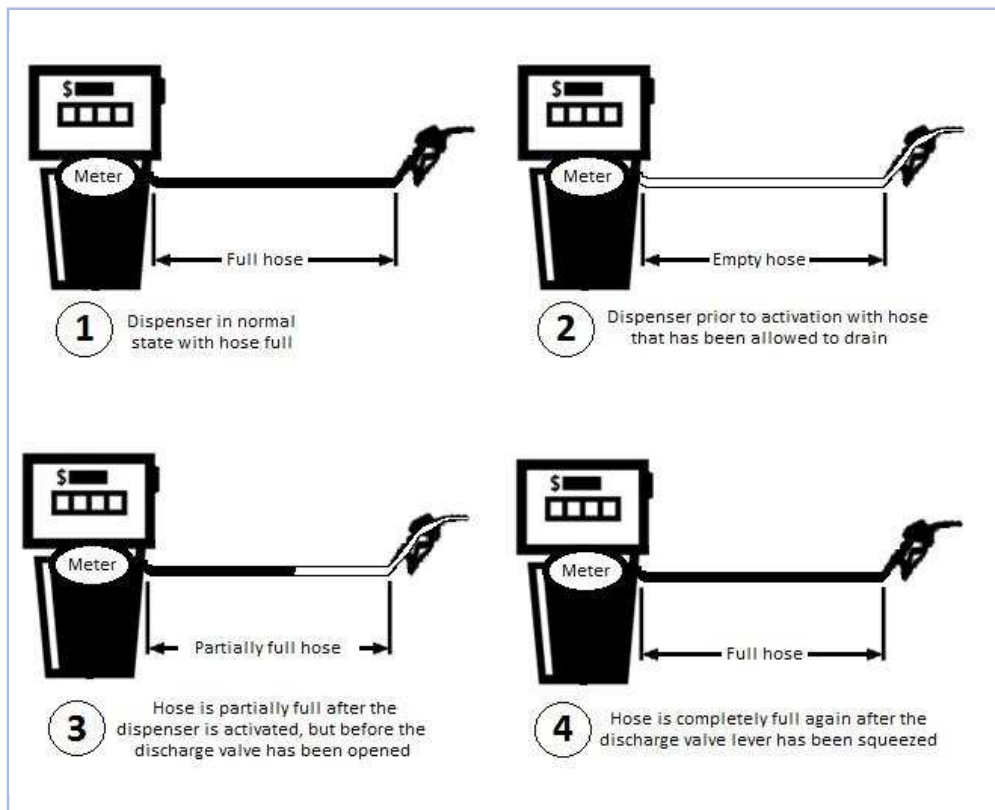

Figure 3. Sequence of hose filling stages during a transaction that starts with an empty hose
The simple purpose of the requirement for an antidrain valve is to ensure that the consumer receives all the fuel that they have paid for. Suppose, for example, that you are at an RMFD to purchase some fuel and the hose was empty when you first arrived because the fuel was either allowed to drain into the vehicle that preceded you or it had drained back into the station storage tanks. The sequence of stages that occur to refill the hose are shown in Figure 3 and explained in more detail in this example:
1. Normally, the hose will be filled with liquid at the beginning and of a delivery as shown in diagram 1 of Figure 3.
2. If liquid is allowed to drain from the hose between deliveries, a void is created in the hose as shown in diagram 2 of Figure 3.
compressing the air that is trapped in the hose before you even squeeze the lever to open the discharge valve, as is shown in diagram 3 of Figure 3.
4. After you open the discharge valve to allow flow, as the rest of the hose is filling up, the meter will indicate that quantity of fuel as part of your transaction, even though no fuel has yet made it into your vehicle. Only after the hose is finally completely full, as shown in diagram 4 of Figure 3, will fuel begin to fill your vehicle.